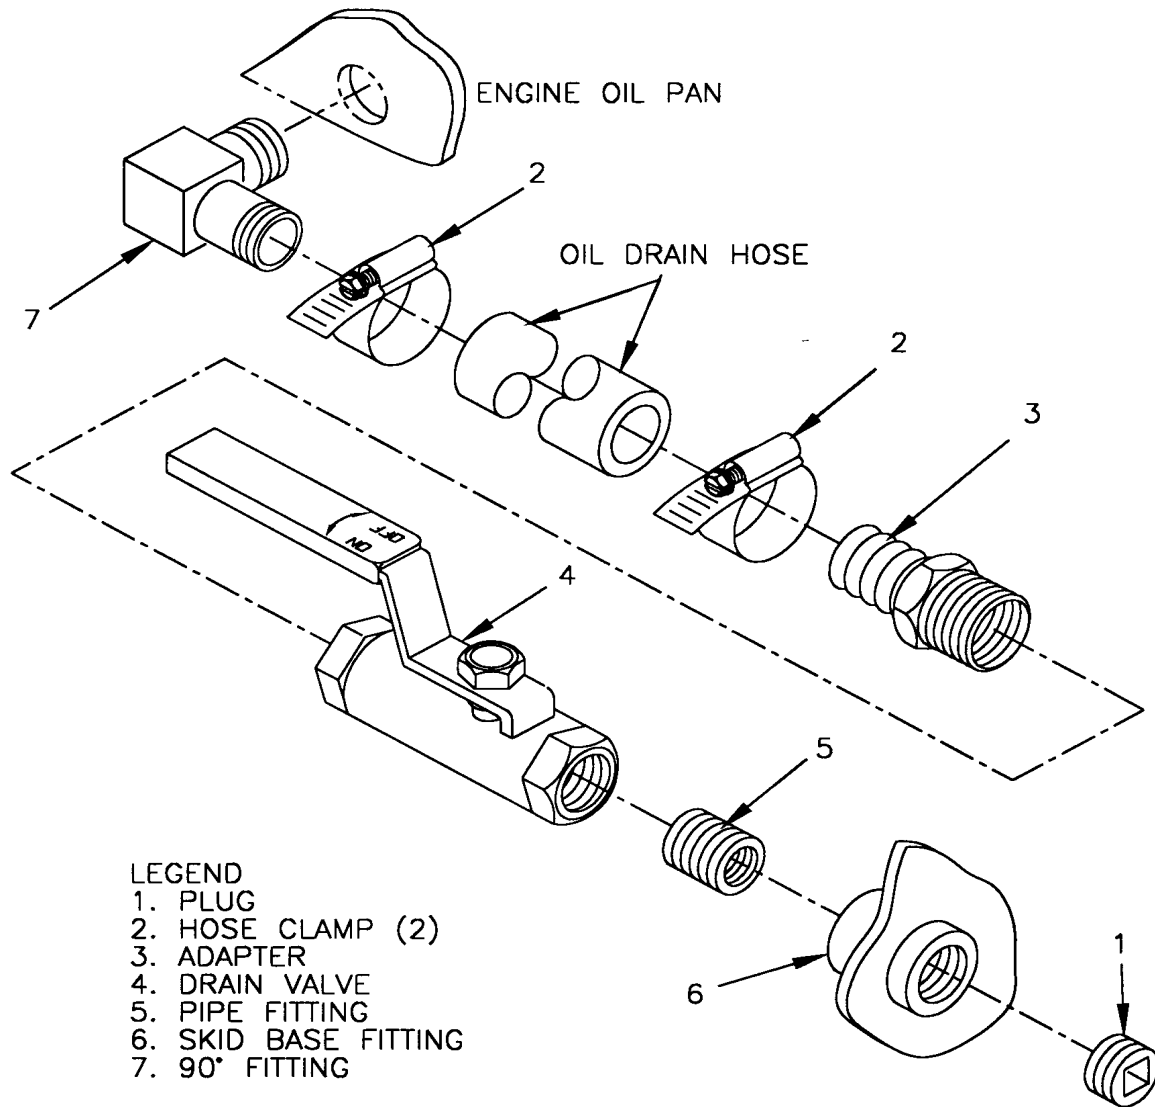

FIGURE 4-32. OIL DRAIN VALVE
- (4) Remove plug (1, Figure 4-32), open drain valve (4), and drain engine oil into suitable container.
- (5) Loosen hose clamps (2), and remove oil drain hose from adapters (3 and 7).
- (6) Remove adapter (3) from drain valve (4).
- (7) Remove drain valve (4) from pipe fitting (5).
- (8) Remove pipe fitting (5) from skid base fitting (6).
- (9) Apply sealing compound (Item 22, Appendix E) to threads of pipe fitting (5, Figure 4-32). Install pipe fitting (5) on skid base fitting (6), and drain valve (4) on pipe fitting.
- (10) Apply sealing compound (Item 22, Appendix E) to pipe threads of adapters (3 and 7). Install adapter on drain valve (4).
- (11) Position hose clamp (2) on oil drain hose. Connect hose to adapters (3 and 7), and tighten hose clamp.
- (12) Apply sealing compound (Item 22, Appendix E) to threads of plug (1). Install plug on skid base fitting (6).
- (13) Service lubrication system, paragraph 3.3.8.
- (14) Check engine oil drain line and valve for leakage.
- (15) Connect negative battery cable to battery, and close BATTERY ACCESS door.
- (16) Close engine compartment access doors.